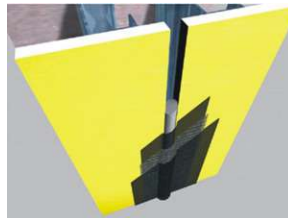

Fig. 19
- Using a brush or 3/4 in (19 mm) nap roller, apply a liberal coat of AquaFlash Liquid material to the backer rod and adjacent substrate surface to the width of the AquaFlash Mesh – **Figure 19**.